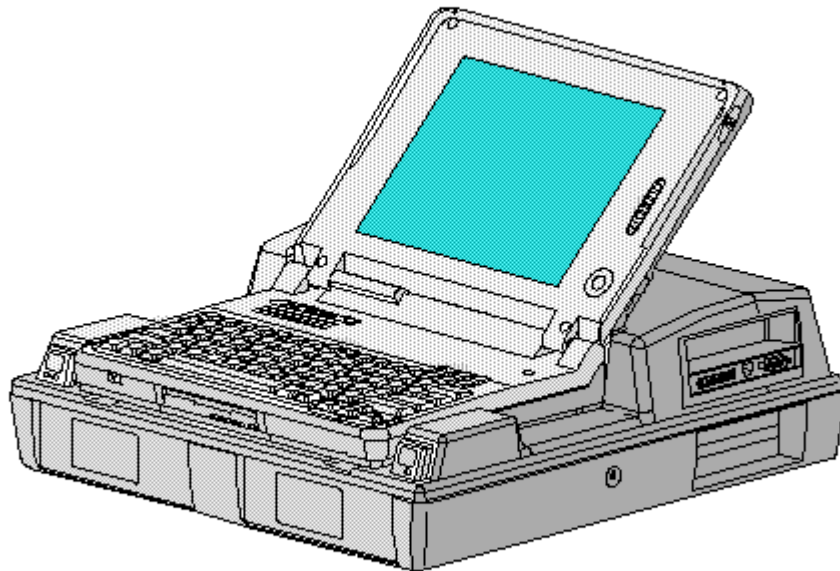

Figure 1-1. Computer Docked in the Expansion Base
- o Compaq SmartStation (Figure 1-1)